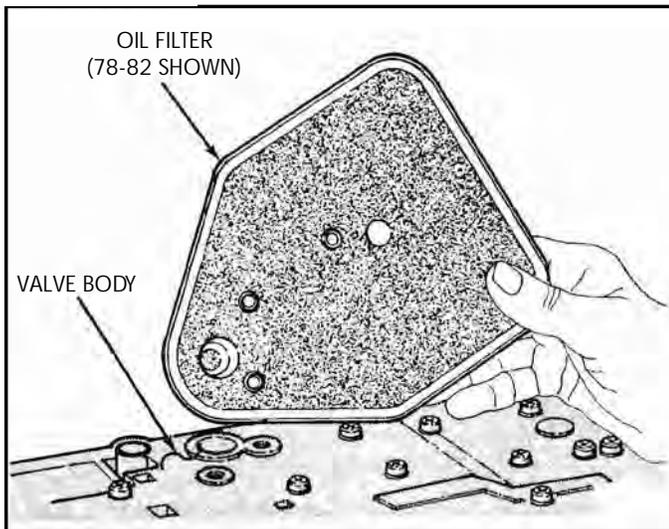

Figure 31
9. Remove and discard the oil filter, as shown in Figure 31. *Note: We have shown the 78-82 model filter in Figure 31. The filter changes in 1983, but we will discuss this on assembly.*